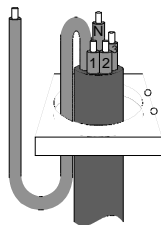

Fig. 2
- Always ensure the Earth conductor DOES NOT pass through the toroid. If it is unavoidable, the Earth must be routed back through the toroid again and around, as shown in Fig. 2 below.